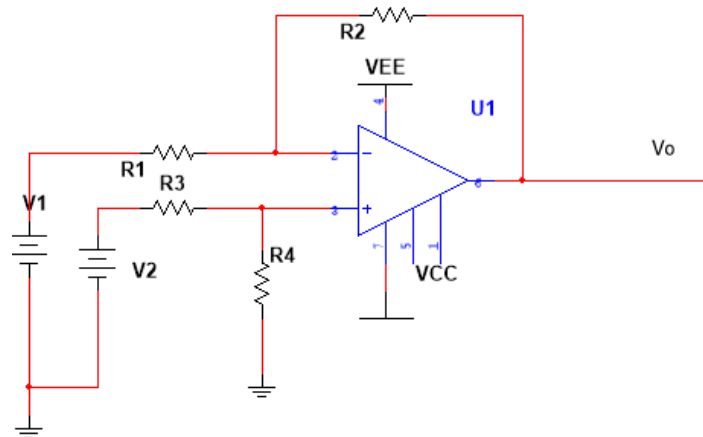

Fig 2.7: Subtractor circuit
2. The circuit is set-up as shown in figure 2.7. The supply voltage $\pm V_{CC}$ is set at $\pm 12V$.